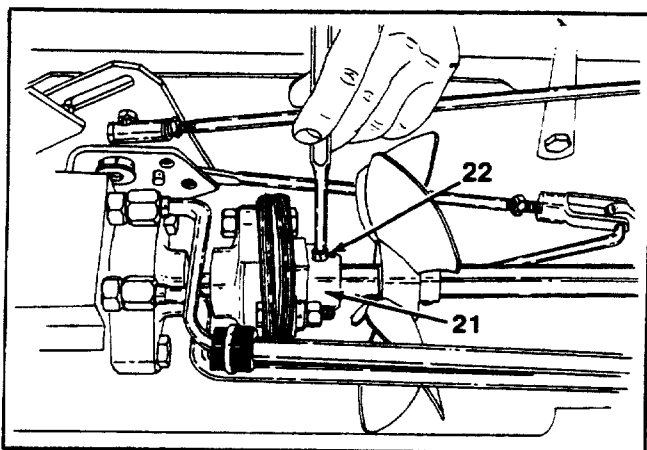

FIGURE 15.
18. Remove the roll pin on the casting (coupling) on the drive shaft at the rear of tractor just in front of pump. See figure 15.